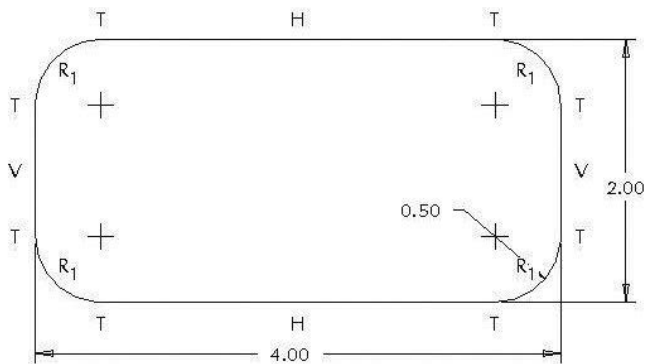

Figure 3-38 Rounded Corners
Step 42: Create a rectangle, then use  to create four rounded corners. Use  to make all four rounded corners the same radius. Adjust the dimensions so the rectangle is 4.00 inches long and 2.00 inches high with 0.50-inch radius corners. There should be only three dimensions present on the sketch. See Figure 3-38. Remember that H, V, and T stand for horizontal, vertical, and tangent.